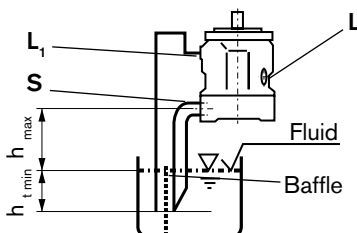

Fig. 2
b) If the min. fluid level is below the pump mounting surface: pipe port "L" and "S" acc. to fig. 2. Conditions acc. to item 1.2.1, close port "L".
Before installation fill pump housing, keeping it in a horizontal position. For mounting above the tank see fig. 2.